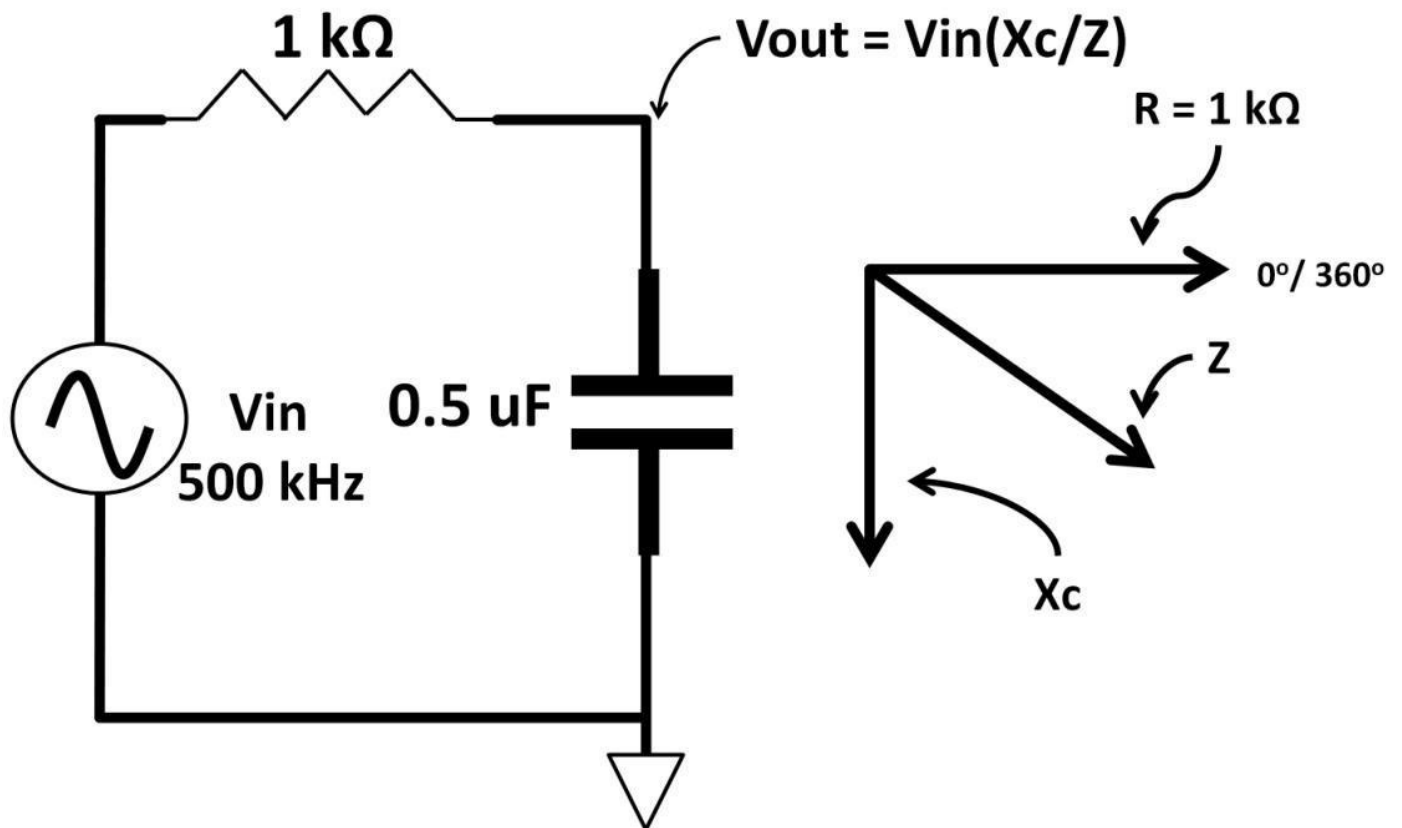

Figure 3.71: R C circuit
12) The vector diagram of a RC filter is shown in figure 3.71. If V_{in} is 25 V at 500 kHz, calculate the total impedance of the circuit, and calculate the voltage at the output and phase shift. Hint: Use the Pythagorean Theorem to calculate Z , then use the voltage divider rule to calculate V_{out} , and trigonometry to calculate the phase angle.